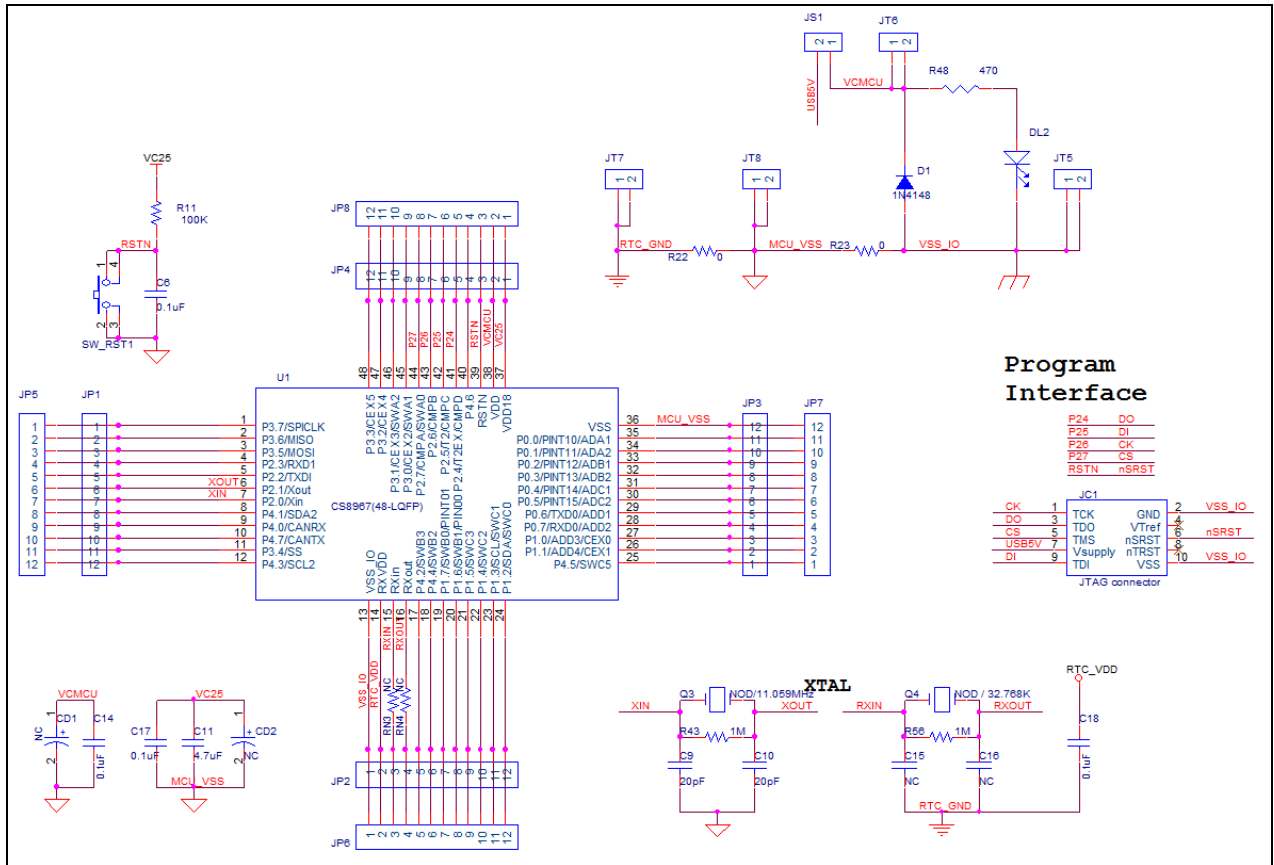

Figure 6: IS31CS8967A Evaluation Board Application Schematic
*Bill of Materials, refer to Figure 6 above.*